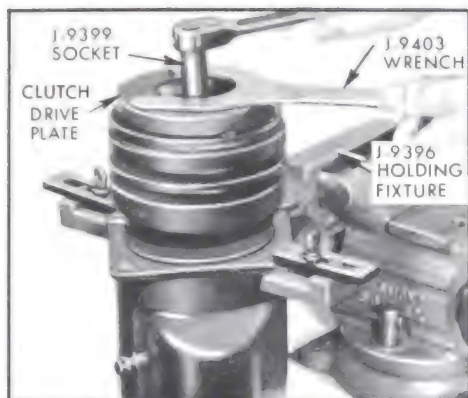

Figure 11-98—Removing Shaft Nut
1. Hold the clutch drive plate hub with J-9403 wrench and use J-9399 special thin wall 9/16" socket to remove shaft nut. See Figure 11-98.